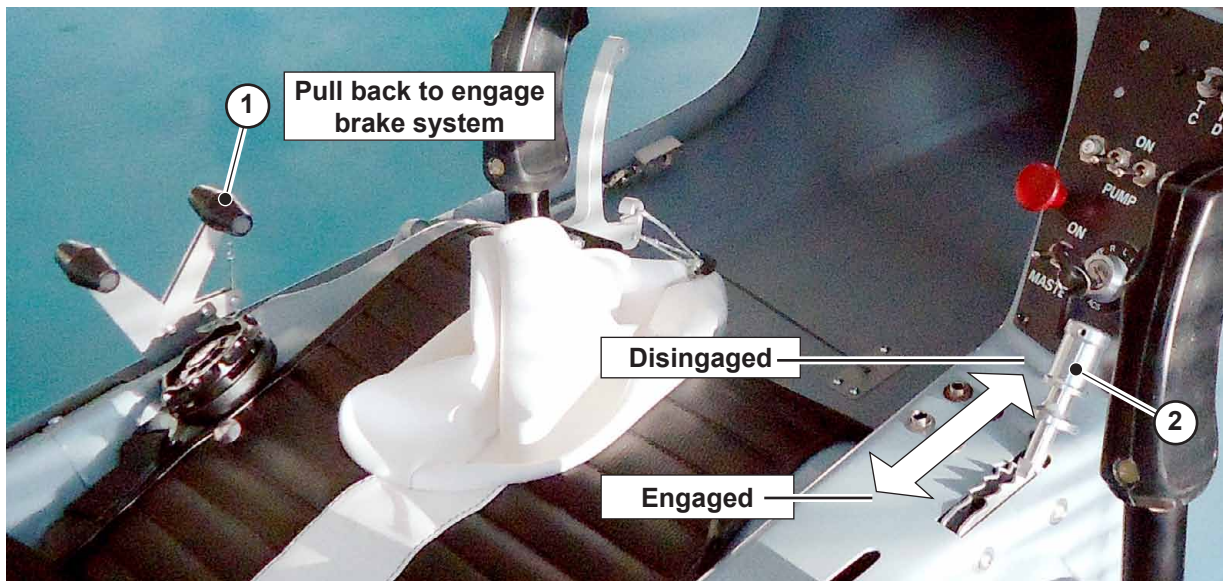

Fig.12 - Brake control lever
2.6.f Brake control levers (Fig. 12)